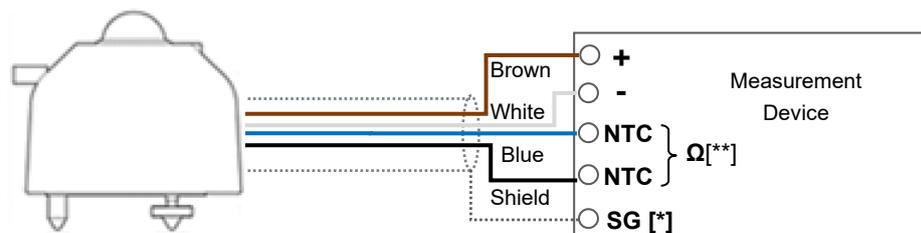

Figure 5-6. How to connect MS-80 (Till S/N: S19046150)
- B. MS-80 (Till S/N: S19046150, temperature sensor type NTC 10kΩ). Connect the 4 wires with corresponding color to the input terminals of the voltmeter or data logger (figure 5-6).